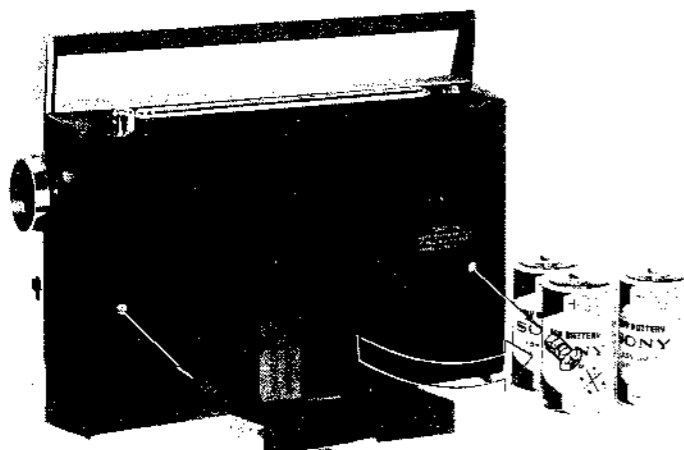

Fig. 3 Rear cabinet removal
2. Remove rear cabinet by removing two holding screws marked with X in Fig. 3.